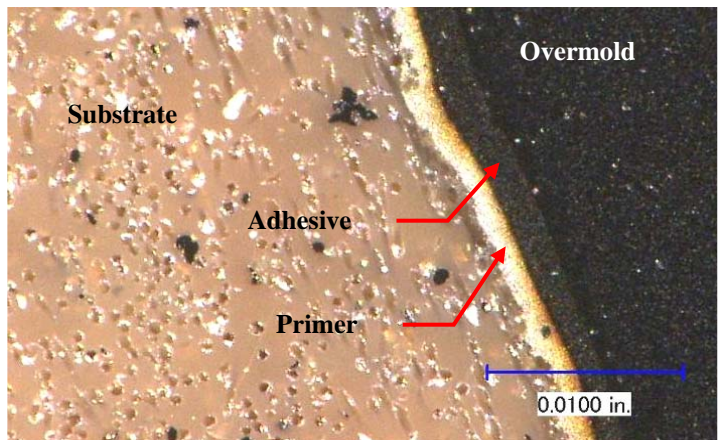

Figure 5: Overmold cross-section.
- Overmold layer interfaces (Figure 5)